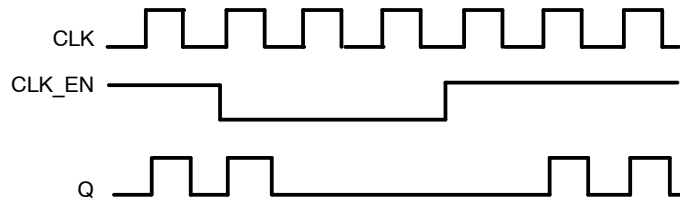

Figure 4. CLK_EN Control Timing Diagram
2. The CLK_EN control input synchronously enables or disables the outputs as shown in Figure 4. This control latches on the falling edge of the selected input CLK. When CLK_EN is LOW, the outputs are disabled in a LOW state. When CLK_EN is HIGH, the outputs are enabled as shown. CLK_EN to CLK Set up and Hold times must be satisfied.